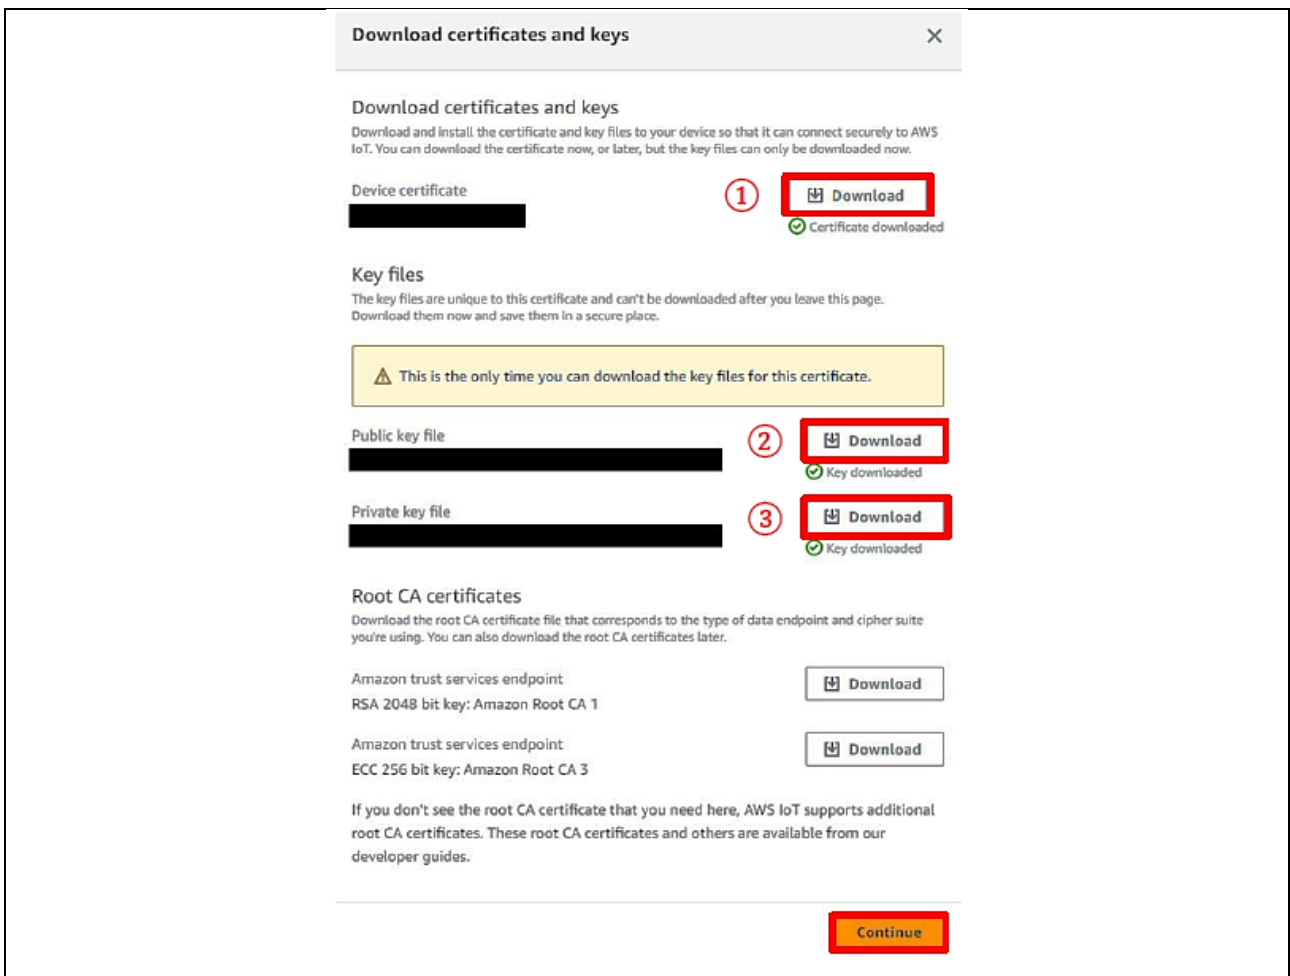

Figure 160. Downloading the Certificate and Key Pair
- Next, storing fleet claim cert ID, claim private key ID that users created at 0, users downloaded (**Figure 160. Downloading the Certificate and Key Pair**):